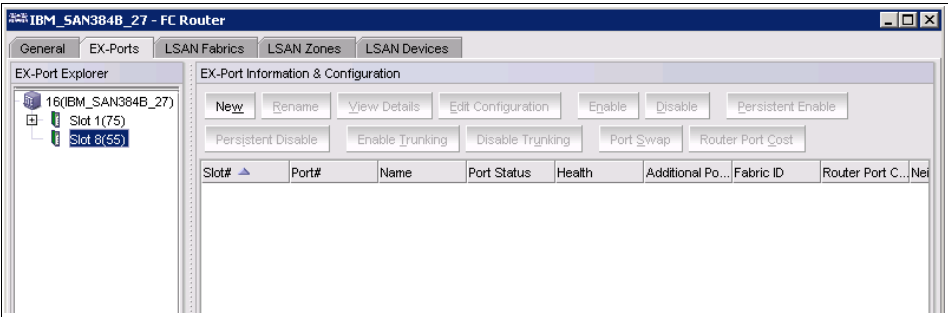

Figure 9-7 EX\_Ports panel
2. Configure EX\_Ports by selecting the EX\_Ports tab in the FCR administration panel, shown in Figure 9-7. Note that slot 8 does not have an EX\_Port now.